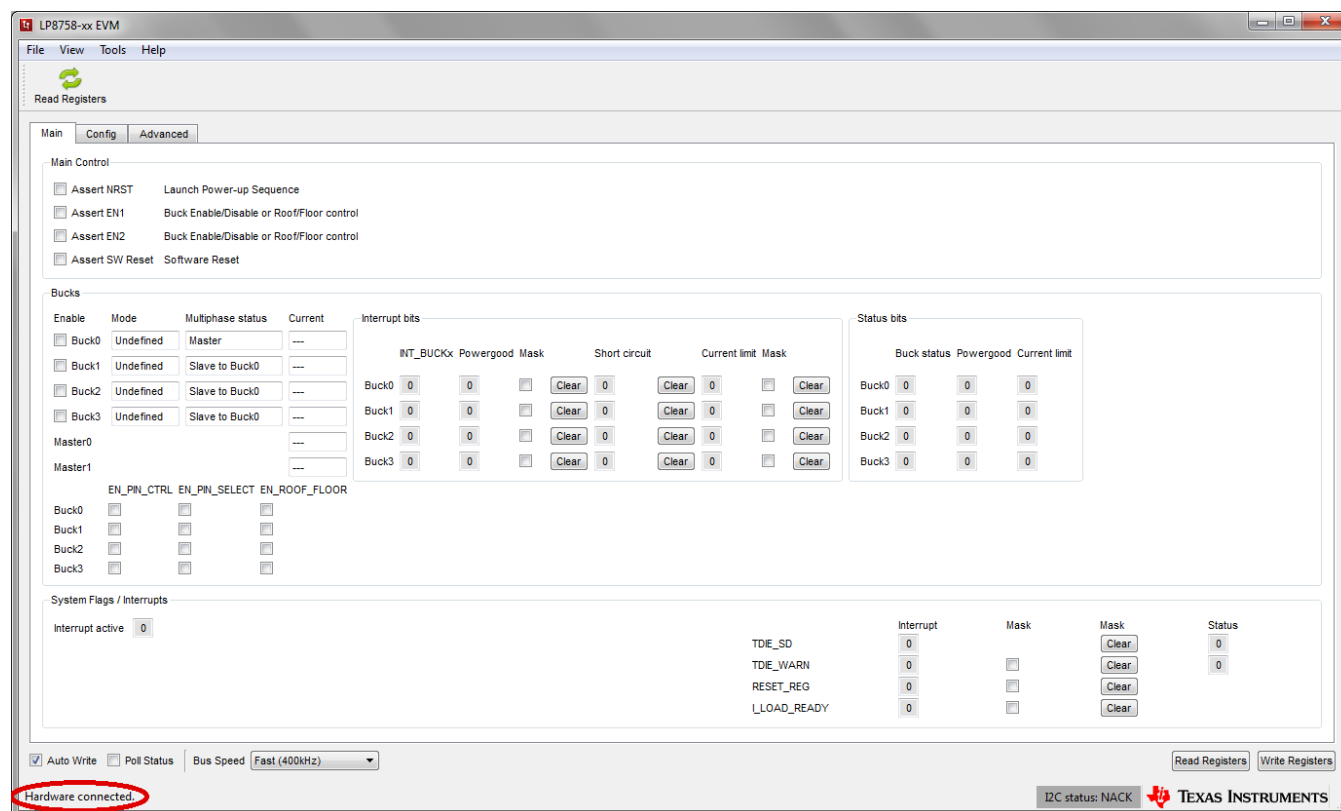

Figure 2. Evaluation Software Graphical User Interface (GUI) When Board Connected
2. On the Evaluation SW window bottom right corner the text “Hardware connected” should appear. Refer to Figure 2.